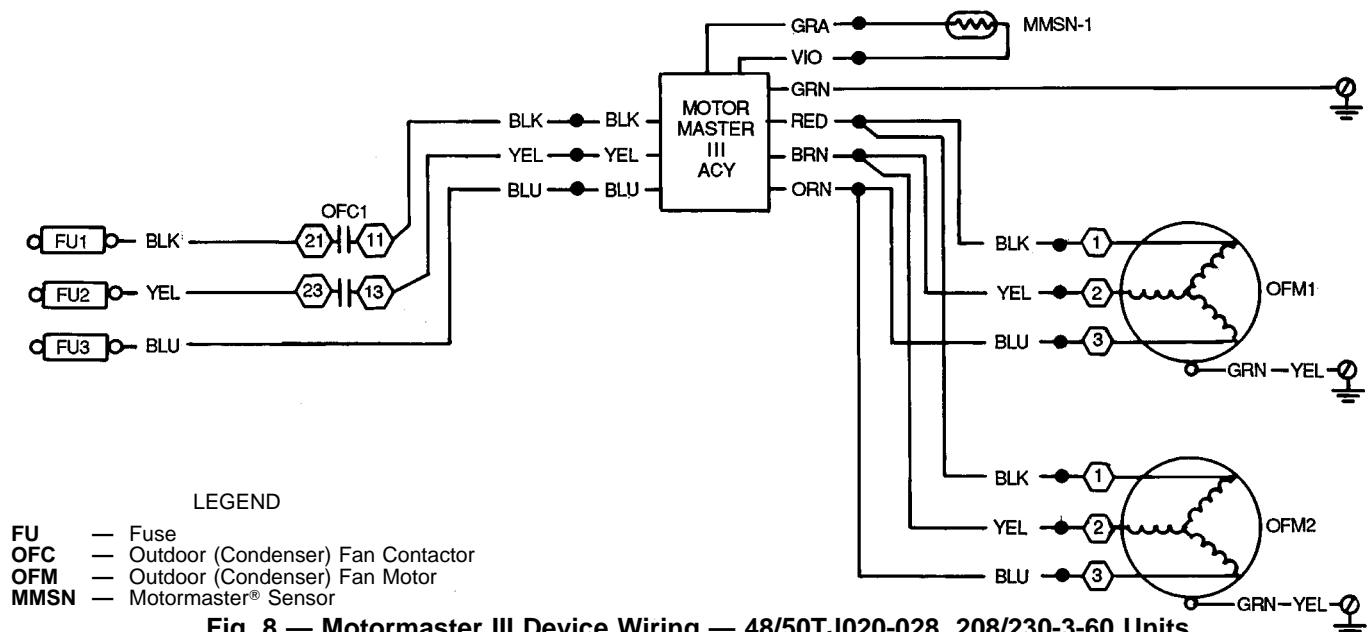

Fig. 8 — Motormaster III Device Wiring — 48/50TJ020-028, 208/230-3-60 Units
3. Connect field-supplied wire (shown as a black wire in Fig. 8) from OFC1-11 to black lead of the MMIII control.
4. Connect field-supplied wire (shown as a yellow wire in Fig. 8) from OFC1-13 to yellow lead of the MMIII control.
5. Connect field-supplied wire (shown as a blue wire in Fig. 8) from FU3 to the blue lead of the MMIII control.
7. Connect (splice) the black wires from OFM1 and OFM2 to the red wire of the MMIII control. See Fig. 8.
8. Connect (splice) the yellow wires from OFM1 and OFM2 to the brown wire of the MMIII control. See Fig. 8.
9. Connect (splice) the blue wires from OFM1 and OFM2 to the orange wire from the MMIII control. See Fig. 8.